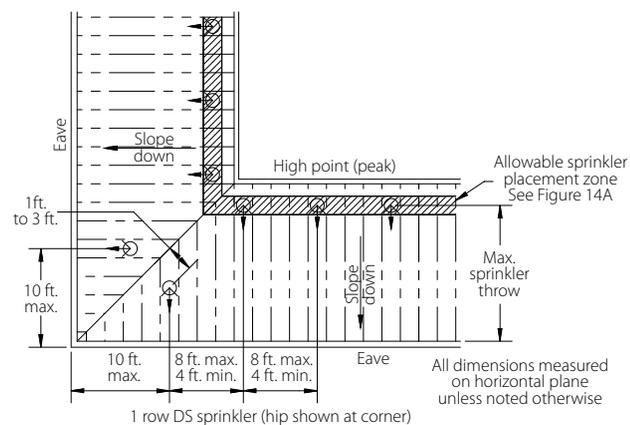

FIGURE 9B: 1 ROW DS SPRINKLER (HIP SHOWN AT CORNER)
- See max Throw Allowed Fig 9B and 9C